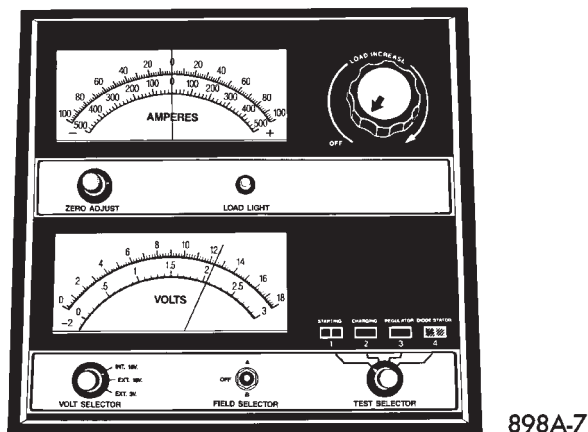

Fig. 4 Testing Open-Circuit Voltage
- (1) Before measuring the open-circuit voltage, the surface charge must be removed from the battery. Turn the headlamps on for 15 seconds, then allow up to five minutes for the battery voltage to stabilize.
- (2) Disconnect and isolate both battery cables, negative cable first.
- (3) Using a voltmeter connected to the battery posts (refer to the instructions provided with the voltmeter), measure the open-circuit voltage (Fig. 4).